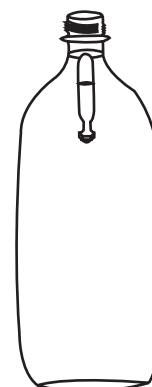

Figure 3.
- Place the standard diver assembly in a plastic 1-or 2-L bottle that has been *completely* filled with water and securely screw on the cap (see Figure 3).